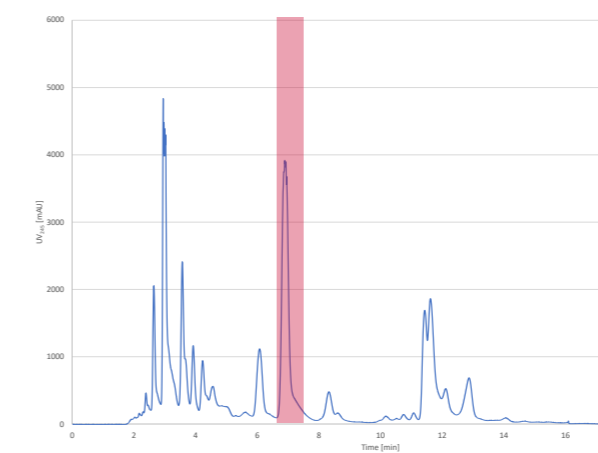
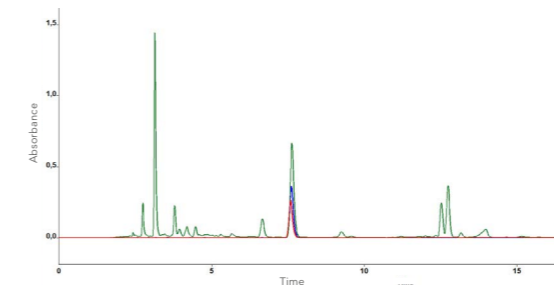
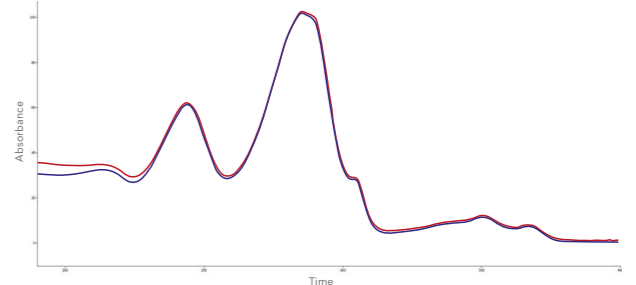

Fig. 1: Chromatogramm of preparative separation of chamazulene blue, collected fraction highlighted in red, 1 ml sample injection
Fig. 2: Chromatogram overlay
Fig. 3: Spectral view of fraction (-) and of chamazulene standard (-)
The collected fraction was analysed by analytical HPLC and revealed nearly 100 % purity. Chromatogram overlay of the fraction, chamazulene standard and the sample clearly showed the successful purification of chamazulene (Fig. 2).
Further the comparison of the fraction spectra and chamazulene spectra (Fig. 3) revealed that the purified fraction was chamazulene.
Fraction analysis of preparative online-SPE purification (Fig.2) of rebaudioside A (1) and stevioside (2); a) F3 (blue), F4 (red), F5 (green), F6 (light blue); b) F7 (red dashed), F10 (blue dashed), F12 (green dashed), F15 (light blue dashed); c) fractionation of target peak, 5 mL fractions
Fig. 1 shows the batch LC without online SPE. The matrix peak (1-5min) negatively affect the separation abilities. In comparison Fig 2 shows that the automated SPE process significantly decreased the matrix. The fraction analysis revealed that only a small part of the overlapping peak contained nearly pure rebaudioside A; fractions 3-5 approx. 15 mL with >90 % rebaudioside A and <10% stevioside (Fig. 3, B). The later fractions contained high amounts of stevioside but also still rebaudioside A (Fig. 3 C). The results showed that purification of highly pure rebaudioside A is possible by an additional online-SPE .